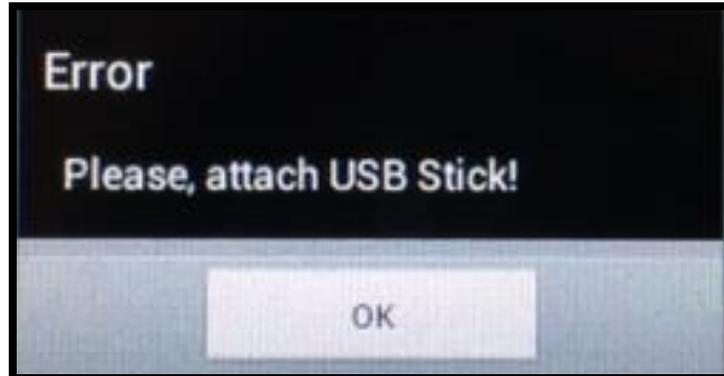

Figure 34
- ix. In the event that you press “Print” and you receive an Error message stating “Please, attach USB stick!” (See Figure 34) double check that the USB stick is seated properly as well as the Setup page information. **NO BLANK SPACES OR PUNCTUATION MARKS may be used when completing the operator input fields. Should the any of the operator fields consist of blank spaces; the MAJSx will NOT print the analysis report, however, underscores (“_”) will be accepted should it be necessary to separate words.**
9. In the event that you press “Print” and you receive an Error message stating “Please, attach USB stick!” (See Figure 34) double check that the USB stick is seated properly as well as the Setup page information. **NO BLANK SPACES OR PUNCTUATION MARKS may be used when completing the operator input fields. Should the any of the operator fields consist of blank spaces; the MAJSx will NOT print the analysis report, however, underscores (“_”) will be accepted should it be necessary to separate words.**